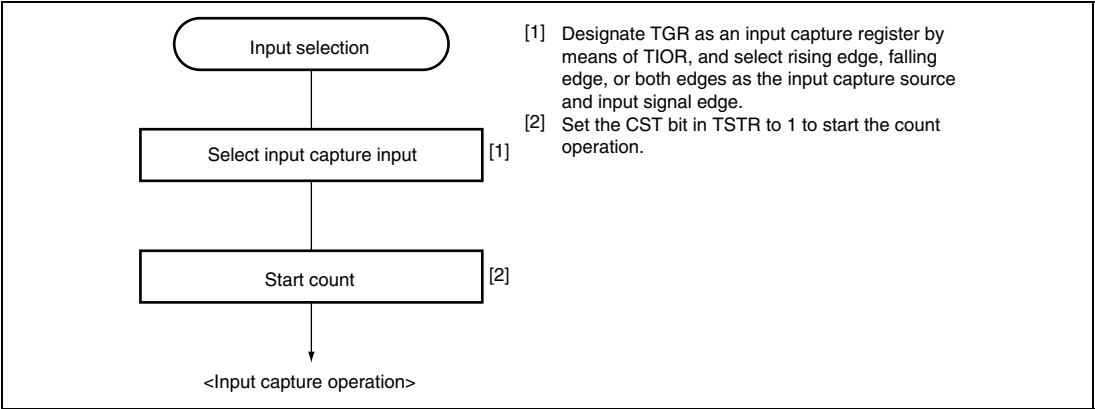

Figure 9.12 Example of Input Capture Operation Setting Procedure
- 1. Example of input capture operation setting procedure Figure 9.12 shows an example of the input capture operation setting procedure.